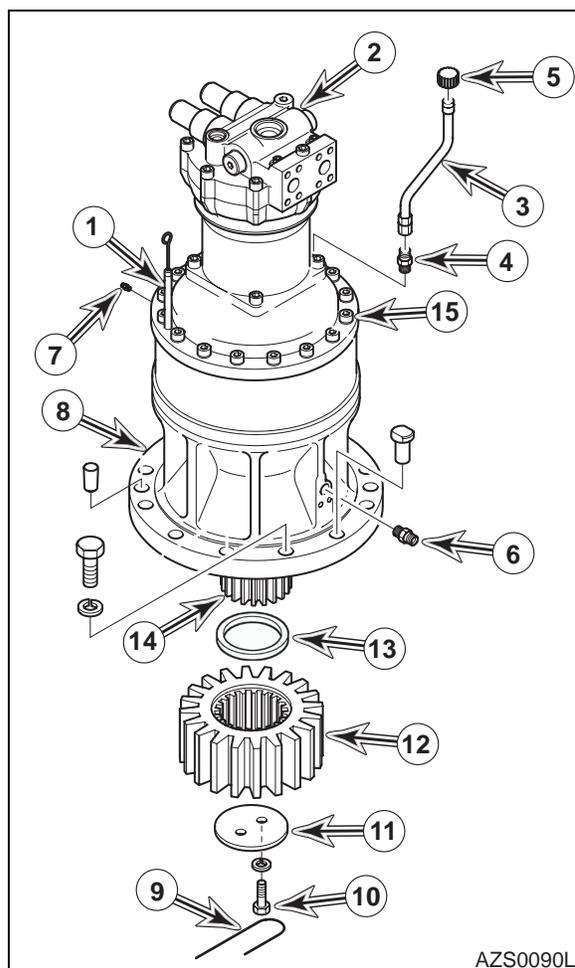
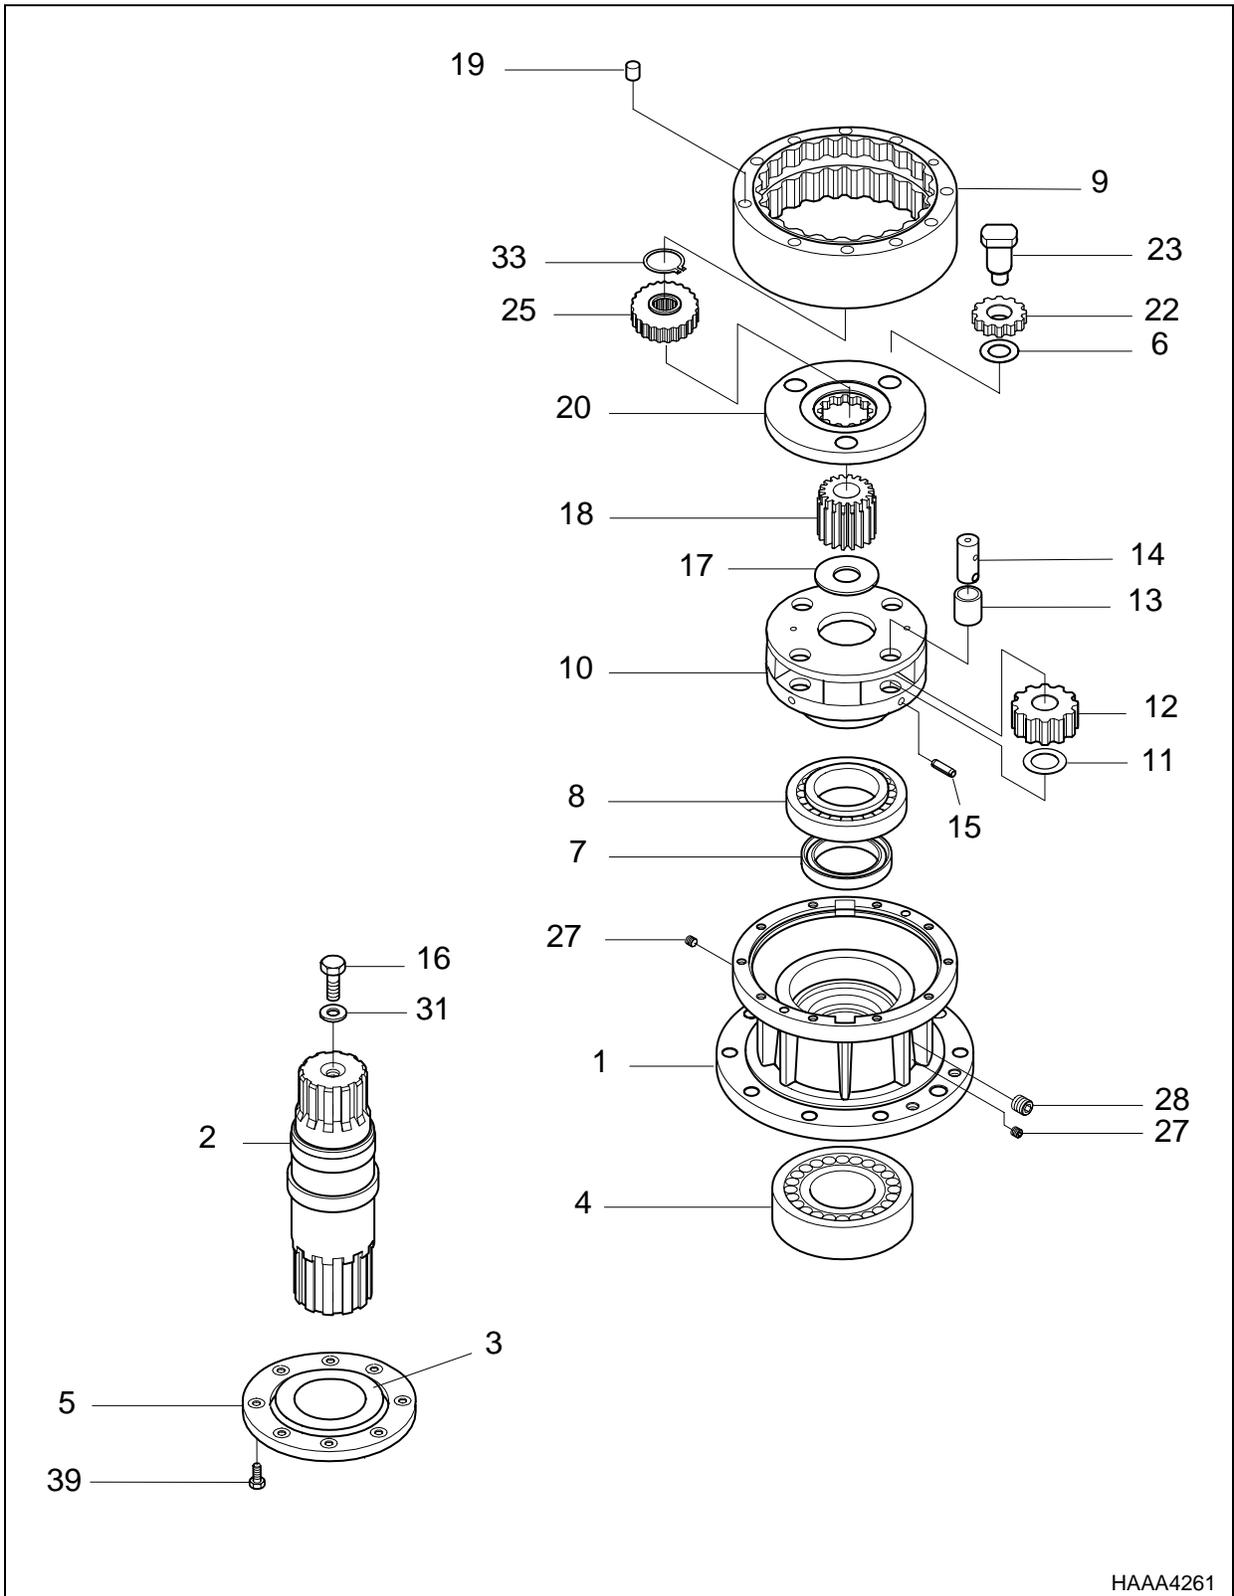

Figure 9 SOLAR 470LC-V
Figure 10
**NOTE:** Prior to disassembly match mark swing motor (2, Figure 9), No. 1 ring gear (9, Figure 10) and casing (1, Figure 10).
1. Remove oil level dipstick, dipstick tube and adaptor (1, Figure 9) from swing motor (2).
2. Remove breather pipe (3, Figure 9) and adaptor (4) from swing motor (2).
3. Remove breather (5, Figure 9) from breather pipe (3) if replacement is necessary.
4. Remove adapters (6 and 7, Figure 9) from gearbox (8). (Solar 470LC-V)
5. Cut lock wire (9, Figure 9) and remove it from drilled head bolts (10).
6. Remove four drilled head bolts and lock washers (10, Figure 9), lock plate (11), pinion gear (12) and spacer ring (13) from drive shaft (14).
**NOTE:** Loctite is spread on the spacer ring (13, Figure 9) when it is originally installed at factory. Heat may be required for disassembly.
7. Unbolt the sixteen socket head bolts (15, Figure 9) and separate swing motor (2) from gearbox (8).
**NOTE:** Ring gear (9, Figure 10) may come loose with swing motor (2, Figure 9).
8. Snap ring (1, Figure 10) will remain on swing motor shaft. Remove snap ring only if replacement is necessary.
9. Remove No. 1 sun gear (25, Figure 10) from No. 1 carrier (20) and from end of No. 2 sun gear (18).
10. Remove No. 1 carrier (20, Figure 10) with three No. 1 planetary gears (22) still installed.
**NOTE:** *When removing carrier (20, Figure 10), No. 2 sun gear (18) may come out with it.*
11. Remove pin (23, Figure 10), No. 1 planet gear (22) and No. 1 thrust washer (6) from No. 1 carrier (20). Repeat procedure for remaining planetary gear assemblies.
**NOTE:** *Discard pin (23, Figure 10) and use a new one at reassembly.*
12. Remove No. 1 ring gear (9, Figure 10) from casing (1).
**NOTE:** *Remove knock pin (19, Figure 10) from No. 1 ring gear (9) if replacement is necessary.*
13. Remove No. 2 sun gear (18, Figure 10) from on top of No. 3 thrust washer (17).
14. Bend tabs on double tab washer (31, Figure 10) away from head of bolt (16). Remove bolt (16), double tab washer (31) and No. 3 thrust washer (17) securing No. 2 carrier (10) to drive shaft (2).
**NOTE:** *Discard double tab washer (23, Figure 10) and use a new one at reassembly.*
15. Remove No. 2 carrier (10, Figure 10) from drive shaft (2).
16. Disassemble No. 2 carrier (10, Figure 10).
- A. Remove spring pin (15, Figure 10) from No. 2 carrier (10) and No. 2 pin (14).
- B. Remove No. 2 pin (14, Figure 10), No. 2 thrust washer (11), No. 2 planet gear (12) and No. 2 bushing (13).
17. Remove eight bolts (39, Figure 10) and cover plate (5) from casing (1).
18. Remove plate (3, Figure 10) from cover plate (5).
19. Press drive shaft (2, Figure 10) and roller bearing (4) from casing (1).
**NOTE:** *Press on carrier end of drive shaft (2, Figure 10). Be careful not to damaged threaded hole.*
20. Press drive shaft (2, Figure 10) out of roller bearing (4).